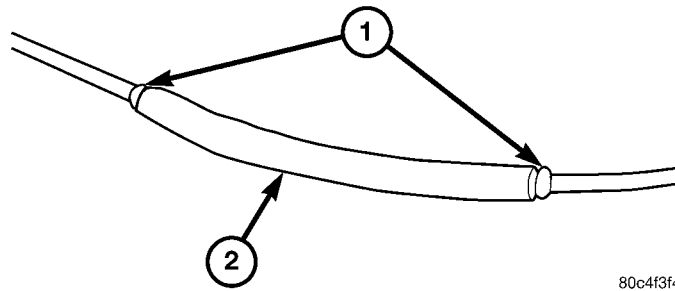

Fig. 4 HEAT SHRINK TUBE
6. Center the heat shrink tubing over the joint and heat using a heat gun. Heat the joint until the tubing is tightly sealed and sealant comes out of both ends of the tubing (Fig. 4).